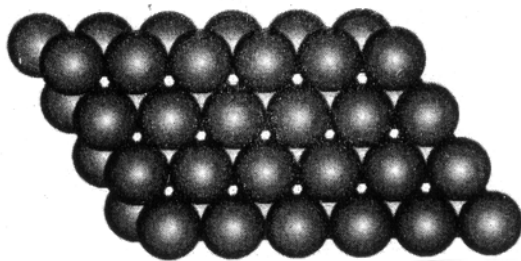

Fig. 8.6 : *Two layers of close packed spheres, the second layer occupies only one type (either X or Y) of triangular voids in the first layer.*
2. In other, the spheres of the second layer are in such a way that these are on the depressions of the first layer. The first possibility is similar to square close packing discussed above and is accompanied by wastage of space. In the second possibility when we place the second layer into the voids of the first layer, the spheres of the second layer can occupy either the X or Y types trigonal voids but not both. You may verify this by using coins of same denomination. You would observe that when you place a coin on the trigonal void of a given type, the other type of void becomes unavailable for placing the next coin (Fig. 8.6).